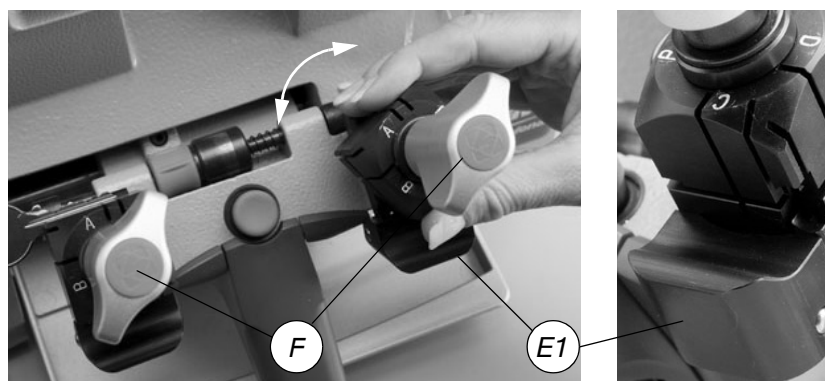

Fig. 20
With loosened handle (F) a light rotation of the clamp is sufficient (gripping by the 2 jaws) to turn it to the required side. Alignment is automatic and guaranteed by the mobile pressure device (E1) (fig.20).